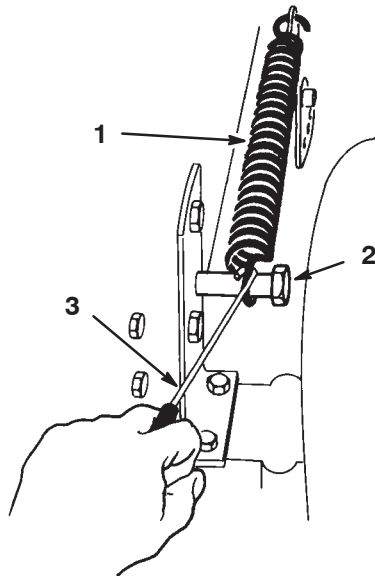

Figure 44
15. Hook the lift assist spring between the mower right side lift bracket and the retaining bolt (Fig. 44).